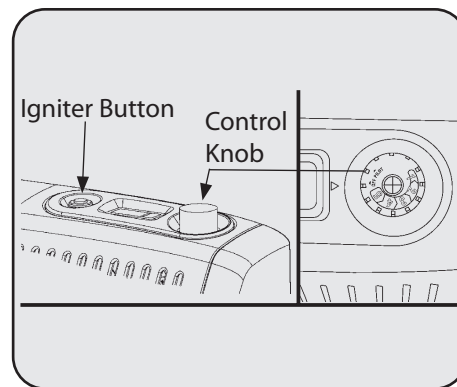

Figure 15
3. Push in gas control knob and slightly turn clockwise ↻ to the OFF position. See Figure 15.